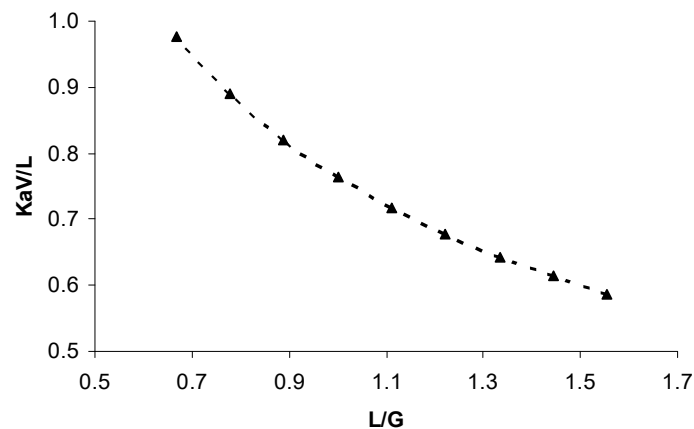

Figure 5 Relationship of Tower Characteristic and Loading capacity ratio by desired design of manufacturer.
increasing of loading capacity ratio, L/G the tower characteristic term (KaV/L) will be decreased as shown in figure 5. Due to a specified design of the tower by manufacturer, tower characteristic term (KaV/L) can be estimated by equation (5) with varying the loading capacity ratio of L/G in the range of 60% to 140% as shown in **Table 2**.